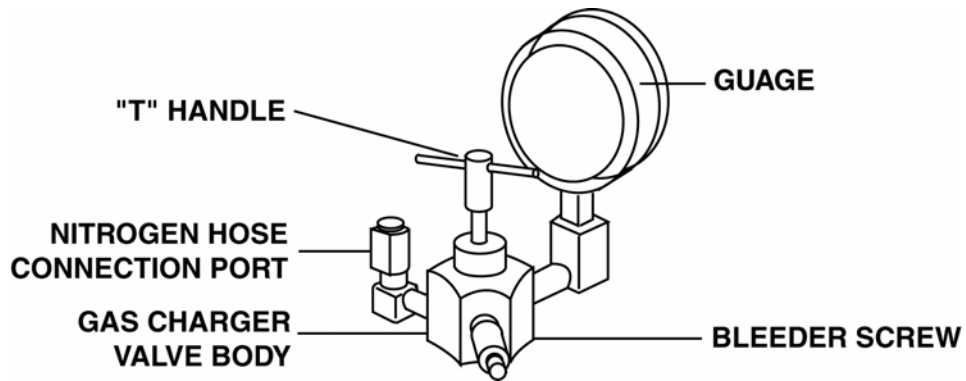

Figure 9. Gas Charger Valve
- b. Remove the cap on the gas charger, nitrogen hose connection port. See Fig 9.